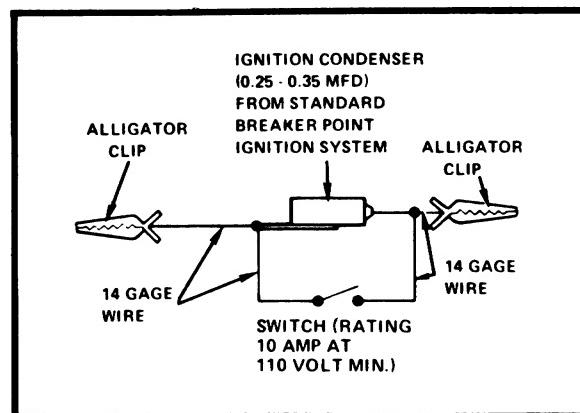

Figure 1 – Ignition Test Jumper
Make up a test jumper as shown in Figure 1 below. It is important to use only this test jumper when making these checks. Solid wire jumpers will not work for the quick checks.
- b. Unplug connector at **TFI Module**. In the harness side of the connector, connect the special test jumper (Figure 1) between ground and the DG/Y lead. Use a straight pin in connector socket hole to make contact.